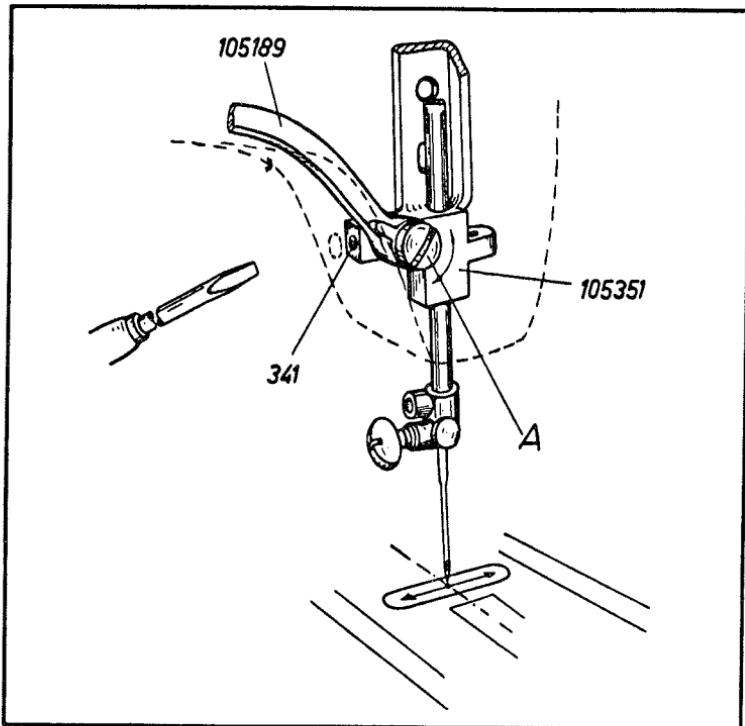

Fig. 4-30. Centering the needle in the needle hole for straight stitching on Pfaff Models 230 and 332. A. The eccentric stud.
When the zig-zag button is set on 0 and the needle position lever is in the center notch, the needle should pass exactly through the center of the elongated needle hole (Fig. 4-30). To provide for this adjustment, the needle bar frame (105351) and the needle bar frame pitman (105189) are connected by means of an eccentric stud A. Normally, the eccentric of this stud should point downward. To center the needle in the needle hole, loosen set screw (341) which can be reached through an aperture in the bend of the arm. Cautiously turn the eccentric stud to the right or left. To get at the stud, pass the screwdriver through the large aperture of the back of the arm. Never turn the stud so that its eccentric part points upward. When this adjustment is completed, tighten the set screw securely.
Next, check whether the needle punctures are positioned at equal distances from the ends of the elongated needle hole. If not, the needle has to be recentered in the needle hole by adjusting eccentric A (Fig. 4-30). Adjust the zig-zag stitch again as previously instructed. This procedure has to be repeated until the zig-zag throw of the needle bar is exactly halved by the center puncture and the needle clears the ends of the needle slot at equal distances. This latter adjustment should be checked with the needle set for its maximum width, and in all three needle positions. Securely tighten the set screws on both eccentric studs.